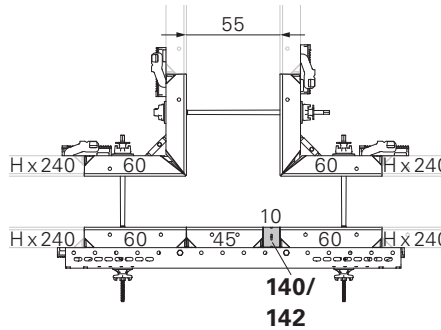

Fig. D3.11
- Wall thickness 55: Fig. D3.11 + D3.09a/c + D3.09b/d